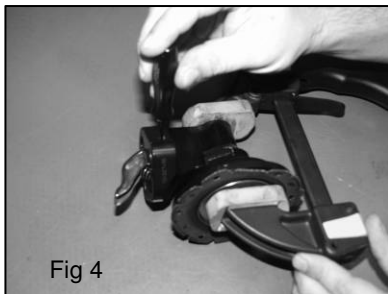

Fig 4
4. Remove the fuel pump arm pivot 5/64 allen screw (Figure 4)